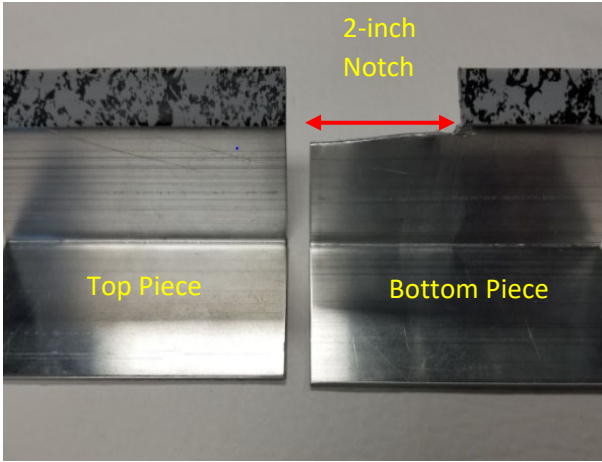

Figure 1 – Step 3
Step 03 Using tin snips, cut a notch out of the hem from the edge of the piece to the pencil mark (*Ref. Figure 1*).